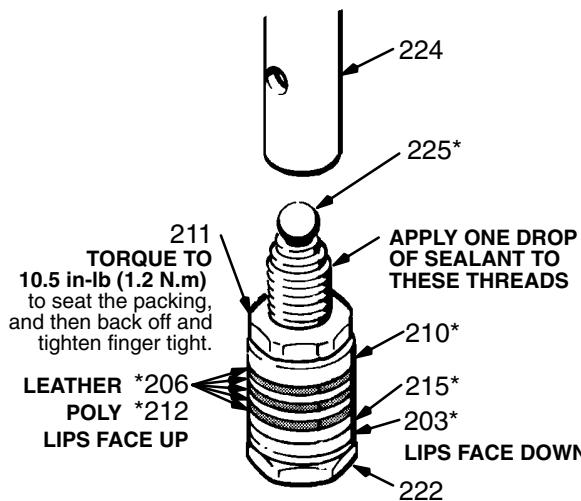

Fig 37-1
7. Clamp the flats of the piston rod in a vise. Loosen the retaining nut (211). Unscrew the piston valve (222) from the rod. Remove all parts from the piston valve (222). Refer to Fig 37-1.
NOTE: Alternate leather and plastic packings as shown in Fig 37-1. The lips of the throat "V" packings must face down, against pressure. The lips of the piston "V" packings must face up, against pressure. The lips of the U-cup seal (3) face down. Incorrect installation damages the packings and results in pump leaking.
1. Check the outside of the piston rod (224) and the inside of the sleeve (218) for scoring or scratches. If these parts are damaged, new packings will not seal properly. Replace these parts if needed.
2. Stack the backup washer (214), seal (203*), female gland (215*), alternate the packings (212*, 206*), and then male gland (210*) onto the piston valve (222). Refer to Fig 37-1.
4. Place the ball (225) on the piston valve (222). Refer to Fig 37-1.
5. Apply one drop of adhesive, supplied, to the threads of the piston valve. Then hand tighten the valve assembly into the piston rod just until the nut (211) contacts the rod. Refer to Fig 37-1.